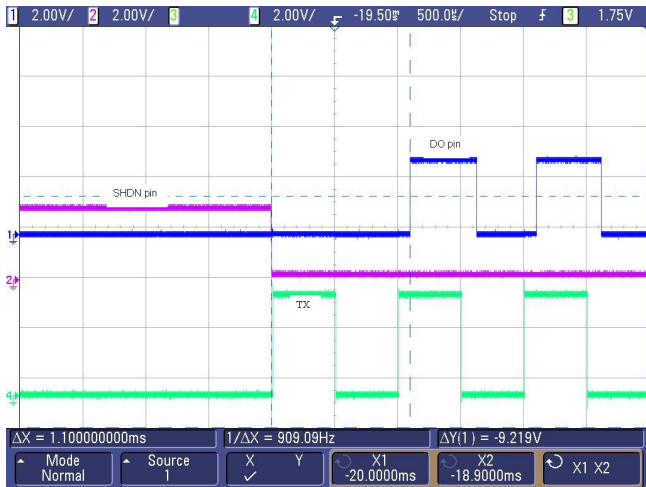

Figure 13. Time-to-Preamble Data after Shut Down Cycle, Room Temperature
When using an external oscillator or reference oscillator signal, the maximum level should not exceed 1.5V_{pp}. See Figure 13. Channel 4 is the transmitted data, which is synchronized with the shutdown shown in the oscilloscope (channel 2). Data out is shown on channel 1 and, as seen below, the preamble data starts to appear just over 1msec after the shutdown pin cycle low to high. Also note that when squelch is used time for data to appear is increased.
Programming the device is accomplished by the use of pins DO and SCLK. Normally, pin 10 (DO) is outputting data and needs to switch to an input pin made by the start sequence, as shown at Figure 13. A high at the SCLK pin tri-states the DO pin, enabling the external drive into the DO pin with an initial low level. The start sequence is completed by taking SCLK low, then high while DO is low, followed by taking DO high, then low while SCLK is high. The serial interface is initialized and ready to receive the programming data.